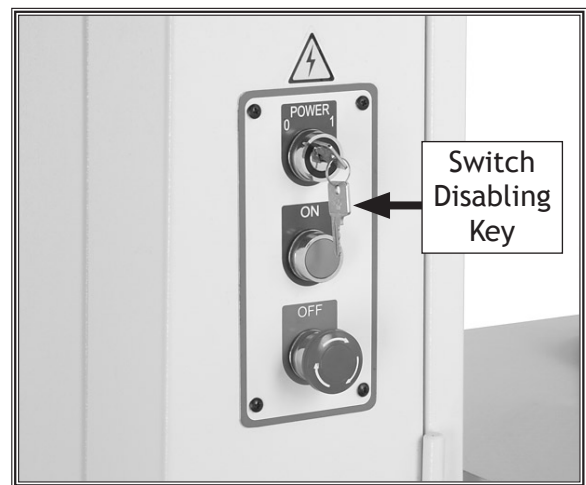

Figure 23. W1770 switch disabling key and ON/OFF switch
4. Verify that the machine is operating correctly by turning the switch disabling key (**Figure 23**) to "1" and turning the machine **ON**.
11. Turn the switch disabling key to "0", as shown in **Figure 23**.